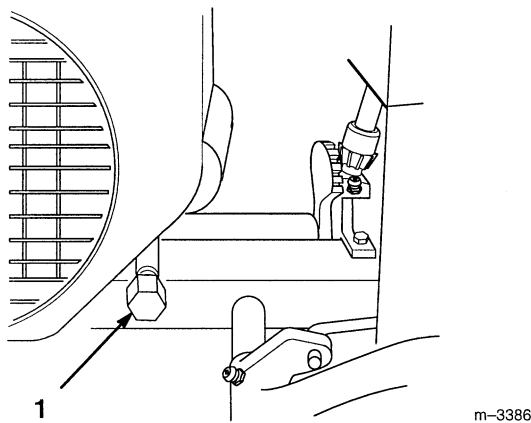

Figure 18
4. Place a pan below the oil drain. Open the drain by removing the cap (Fig. 18).